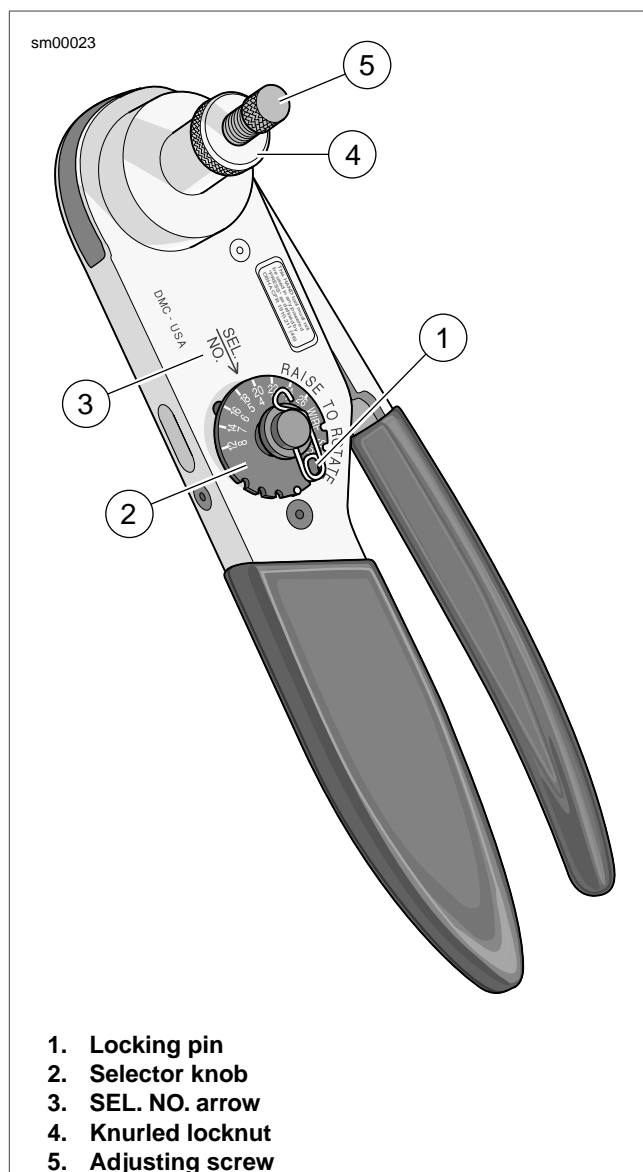

Figure A-37. Electrical Crimper Tool (HD-42879)
1. See Figure A-37. Squeeze the ELECTRICAL CRIMPER TOOL (Part No. HD-42879) handles to cycle the crimp tool to open.
2. Remove locking pin (1) from selector knob (2).
3. Raise selector knob. Rotate knob until selected wire size stamped on wheel is aligned with "SEL. NO." arrow (3).
4. Loosen knurled locknut (4) and turn adjusting screw (5) clockwise (in) until it stops.